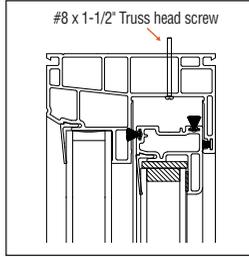

fig. 29
a. Fasten the jambs through the interior pocket using a #8 x 2-1/2" Truss head screw. Drill a 1/8" pilot hole for each screw centering the hole in the pocket of the frame, place the screws approximately 16" to 18" apart. Those steps can be repeated for the head also. **(fig. 29)**